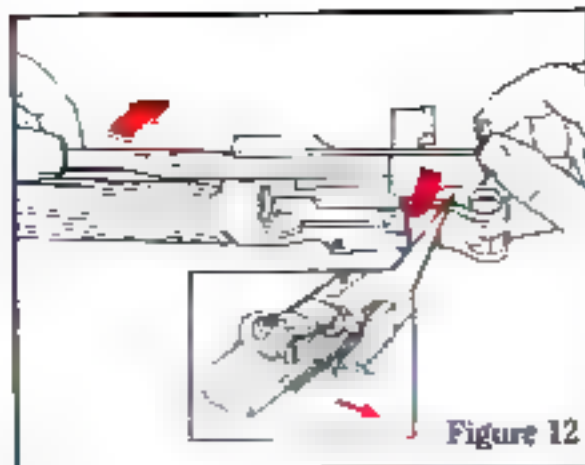

Figure 12
- 7 Pull slide handle to the rear. Align locking projections on slide with disassembly notch on receiver. Remove slide (See Fig. 12)